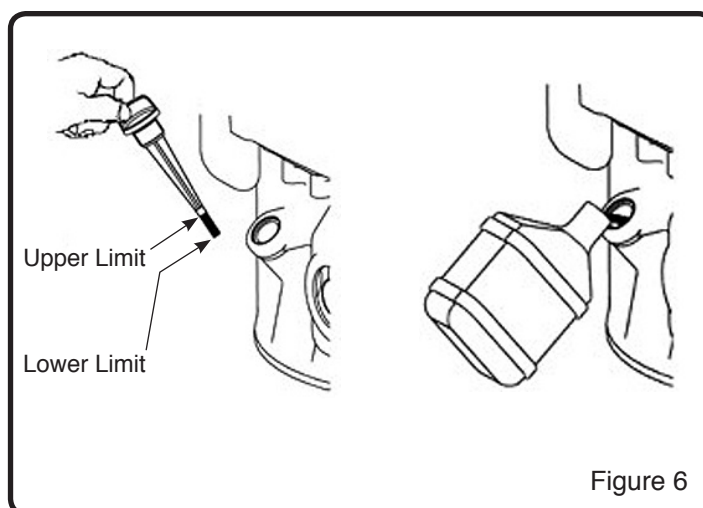

Figure 6
2. Remove Dipstick and wipe clean with cloth. Refer to Figure 6 for location of Dipstick.
4. When oil level is full, the oil will be at upper limit on dipstick. If oil level is near or below the lower limit, oil must be added. (See Figure 6)